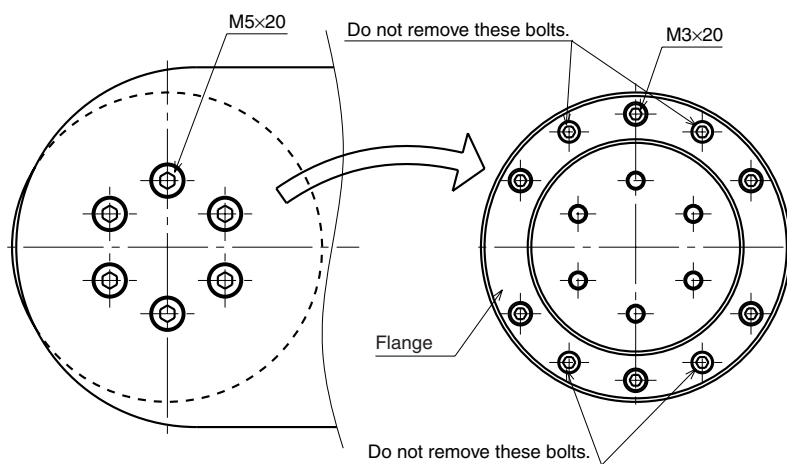

Fig. 5-8
- 9) Remove the flange installation bolts (M5×20, 6 pcs) and then detach the flange from the X-axis arm. Next, remove the bolts (M3×20, 6 pcs) securing the Y-axis harmonic drive. (See Fig. 5-8.)
- 13) Place the new harmonic drive on the flange. Apply small amounts of “Screw Lock” (thread sealer) to the bolts (M3×20, 6 pcs) and tighten them equally from the backside of the flange to secure the harmonic drive. Next, place the flange on the X-axis arm and tighten the bolts (M5×20) from the backside to secure the flange. (See Fig. 5-8.)